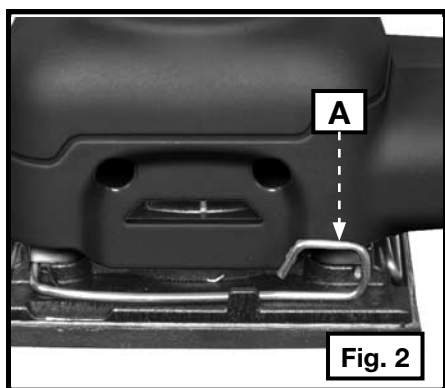

Fig. 2
- Release the front and rear clamps by pulling up on the clamp levers (A) Fig. 2, and disengaging them from the tabs on the base plate.